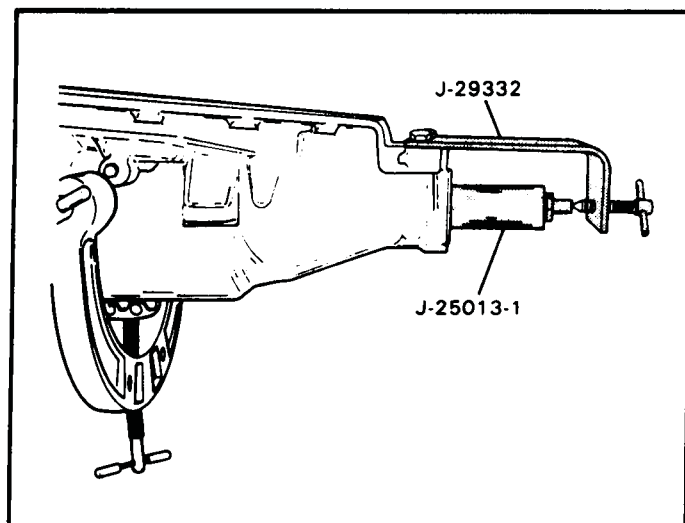

Figure 106
4. Turn the adjusting screw on the holding fixture until white/scribed line begins to disappear, as shown in Figure 106.